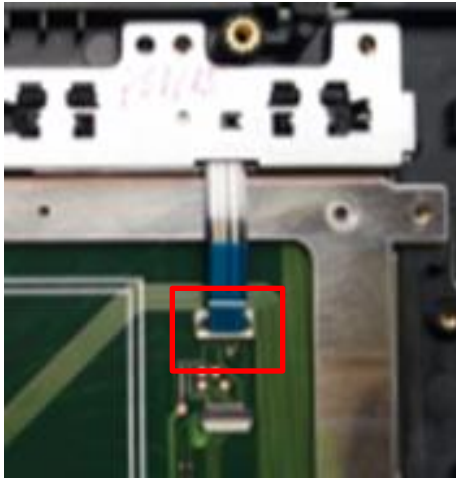

Fig.1
1. Disassemble pick button FPC(Fig.1).